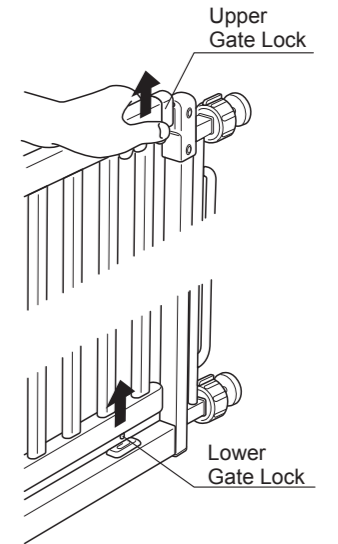

Figure 8
- Lock the Gate Door to keep pets properly confined (Fig. 8).
- Grip and lift the Upper Gate Lock so that the Gate Door is opened by releasing Upper and Lower Gate Locks (Fig. 8).
- Trabe la puerta para mantener a las mascotas correctamente confinadas (Fig. 8).